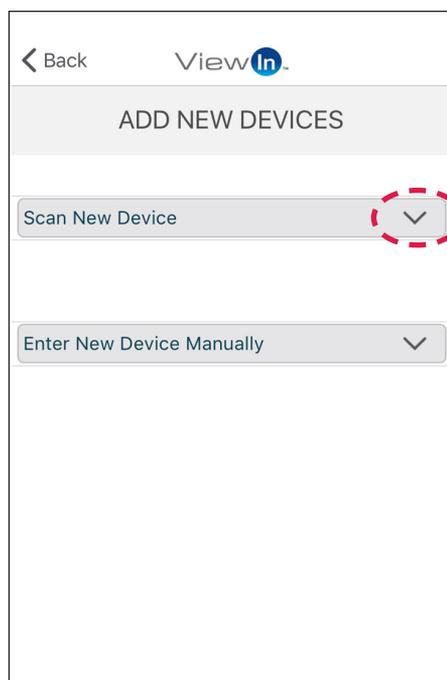
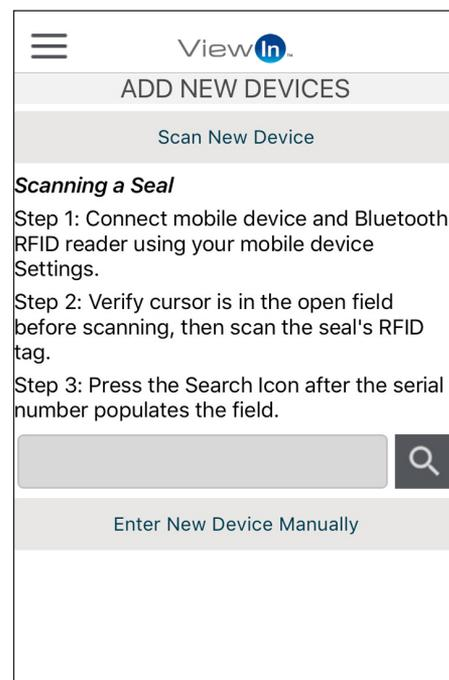

Figure 14
Figure 14a
4. Press on **Scan New Device** (Figure 14). This action will provide scanning instructions and show an empty entry field (Figure 14a).